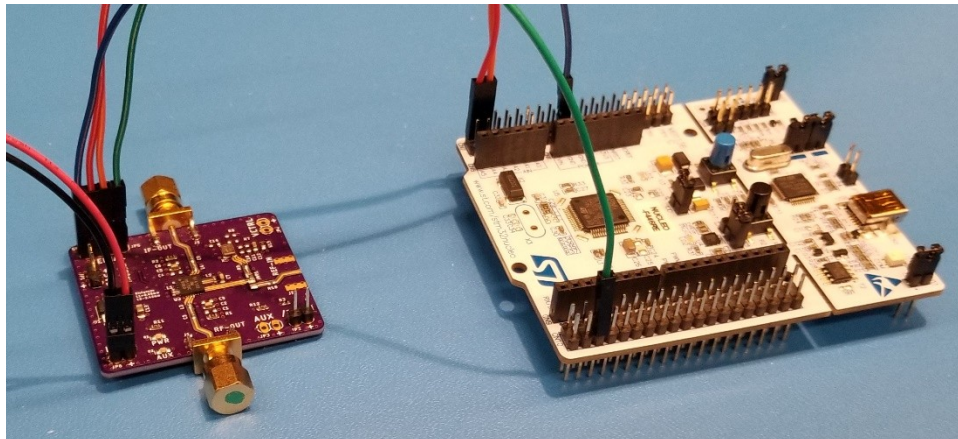

Figure 1: Si4123 eval board left, NUCLEO-F446RE dev board right
The Silicon Labs Si41xx synthesizer family is available in five variations with up to three synthesizers. However, RF1 and RF2 share an output. See the end of this document for supplemental information, datasheets, and GitHub repos with EAGLE CAD files of the Si4123 evaluation board; Figure 1 shown above.
2. **ATTENTION:** Connect the Si41xx board to power. The **Si4123 evaluation board show in Figure 1 above accepts ~3.5V to 10V max due to incorporating a LDO regulator**; the TI LP38692 3.3V fixed LDO. The **Si41xx IC operates within 2.7V to 3.6V**; however, a TCXO on the evaluation board may have strict voltage requirements.